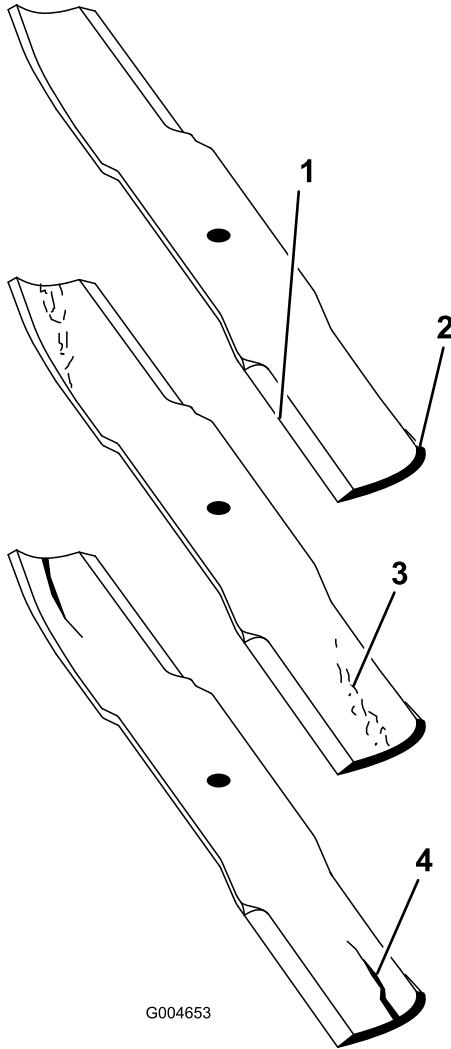

Figure 87
2. Examine the cutting ends of the blade carefully, especially where the flat and curved parts of the blade meet (Figure 87).
Note: Because sand and abrasive material can wear away the metal that connects the flat and curved parts of the blade, check the blade before using the mower. If wear is noticed (Figure 87), replace the blade.